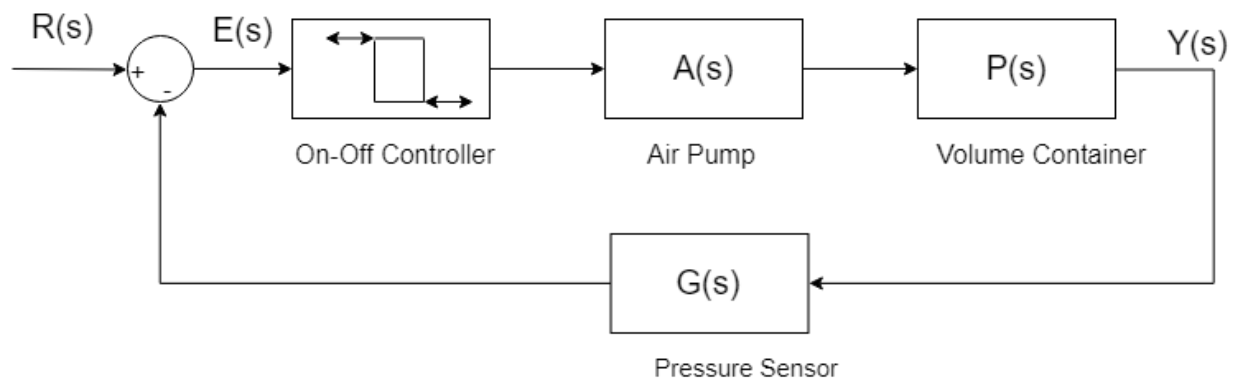

Figure 6: System's Block Diagram with On-Off controller
12. MATLAB will give an output like in the Figure 6. Save the plot.